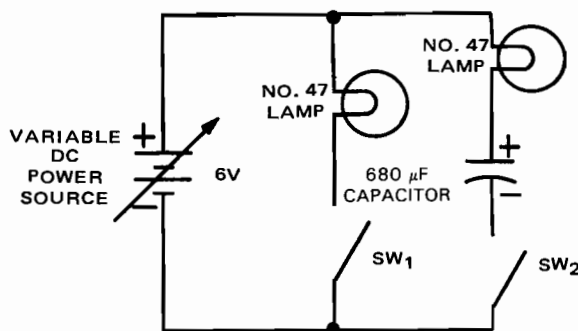

Fig. 10-4-2
11. Turn off both circuit switches. Remove ac source and connect a dc source in its place. See Fig. 10-4-2. Note that C_1 is also changed back to original $680 \mu\text{F}$. Observe correct polarity of capacitor and power source.